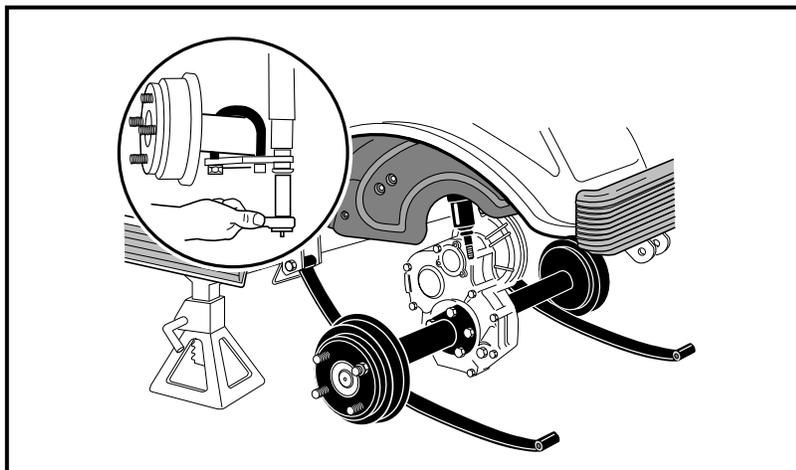

Figure 15-5 Lower Axle
7. Remove the nuts and bolts mounting the rear leaf springs to the shackles (**Figure 15-5, Page 15-4**).
8. To gain easier access to the motor, lower the transaxle as low as it will go. If more room is needed, remove the jack from beneath the transaxle and allow the springs to rest on the floor (**Figure 15-5, Page 15-4**).